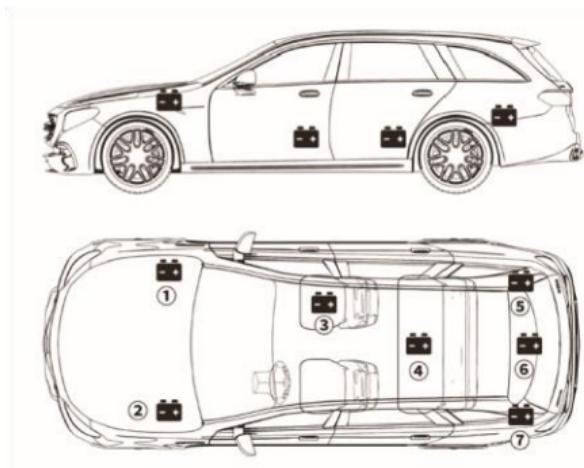

Figure 3.1.1
- 1) Most models hold the battery in the engine bay, under the hood, in one of the front corners. See battery location ① and ② in Figure 3.1.1.
- 2) To balance uneven weight distribution, some manufacturers ⑦hold the engine in the trunk. See battery location ⑤ , ⑥ , and ⑦ in Figure 3.1.1. In this case, the battery may have a plastic cover that should be removed prior to any testing.
- 3) For some models, the battery might be stored underneath the rear seat. See battery location ④ in Figure 3.1.1.
- 4) For other vehicles, the battery can be located underneath the passenger seat. See battery location ③ in Figure 3.1.1.